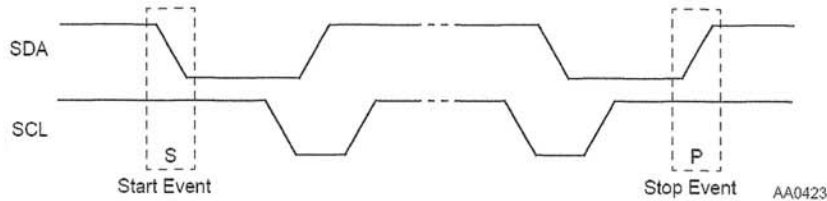

Figure 5-8 I²C Start and Stop Events
- **Start data transfer**—The Start event is defined as a change in the state of the data line, from high to low, while the clock is high (see **Figure 5-8**).
- **Stop data transfer**—The Stop event is defined as a change in the state of the data line, from low to high, while the clock is high (see **Figure 5-8**).